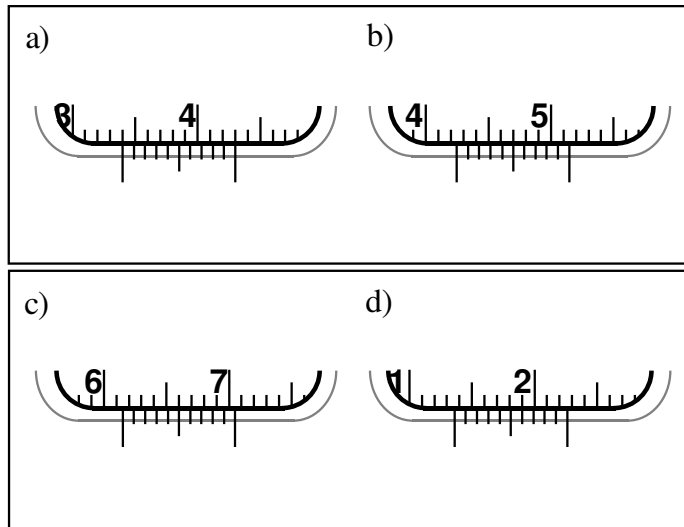

Figure 4: Test cases
- D. In the four examples of Fig. 4 determine the actual reading.